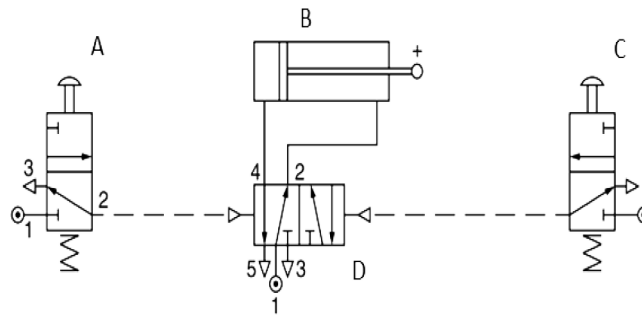

Figure Q8
- b) i) Name all the components given by symbolic representations in Figure Q8. (8 marks)
- ii) Describe the operation of the pneumatic circuit given in Figure Q8. (6 marks)